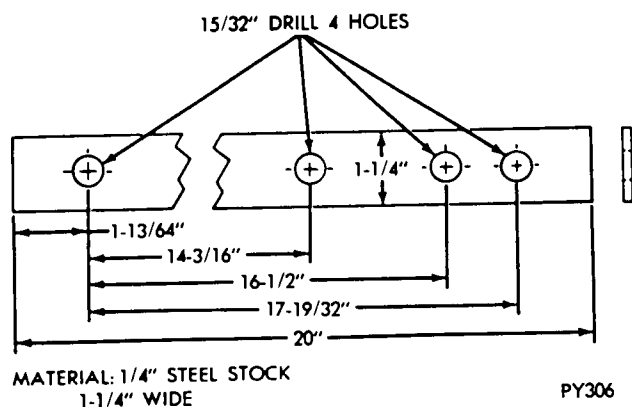
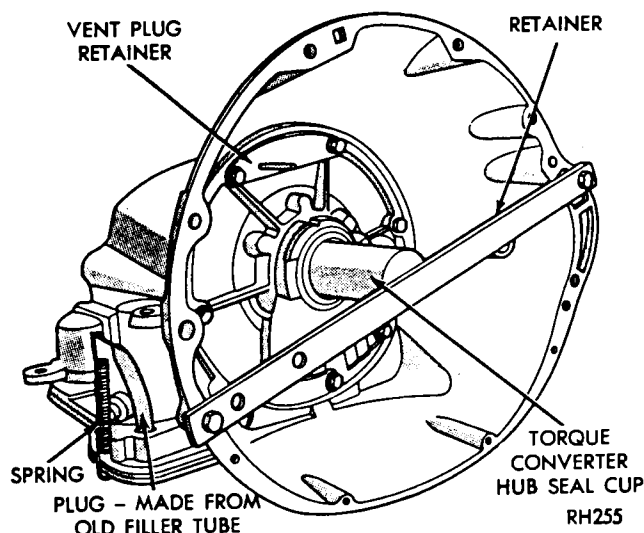

Fig. 9—Hub Seal Cup Retaining Strap
Fig. 12—Transmission Prepared for Test
(1) Install filler tube bore plug, propeller shaft yoke (tie in with cord or wire), flared tube fitting cap (on front cooler line fitting), and a short piece of tubing, flared at one end, on the rear cooler line fitting (Figs. 12 and 13).
(2) Remove necessary front pump housing bolts. Install vent plug (rubber stopper), and vent plug retainer preferably using longer bolts than those removed.
(3) With rotary motion, install torque converter hub seal cup over input shaft, and through the torque converter hub seal until the cup bottoms against the pump rotor lugs. Secure with cup retainer strap (Fig. 9), using torque converter housing to engine block retaining bolts.